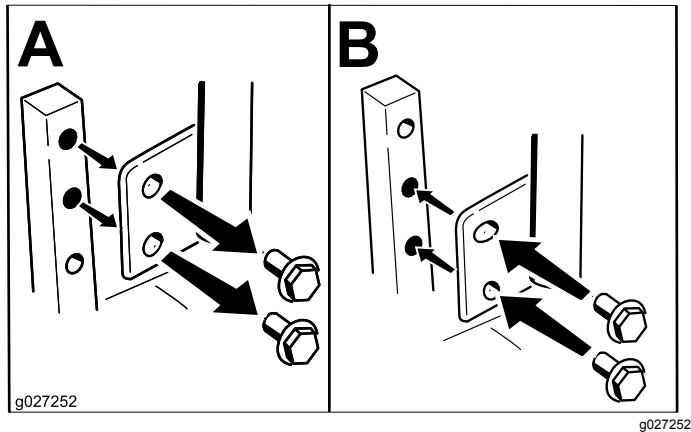

Figure 21
2. Loosen the lower bolt just enough to pivot the control lever fore or aft (Figure 21). Tighten both bolts to secure the control in the new position.